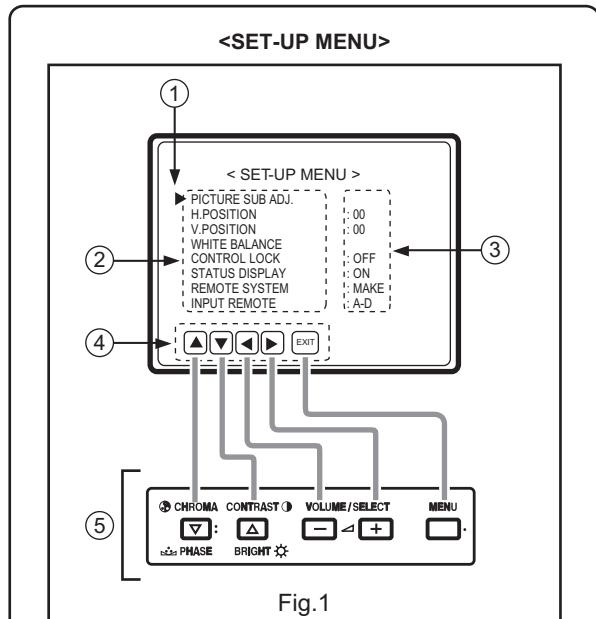

Fig.1
- (1) Press the [MENU] button and the [CHROMA /PHASE] button simultaneously.
- (2) The < SET-UP MENU > screen (Fig. 1) will be displayed.
- (3) Check the setting value of the each item of the < SET-UP MENU >. If value is different, select it and set the correct value.
- (4) Press the [MENU] button, and return to the normal screen.